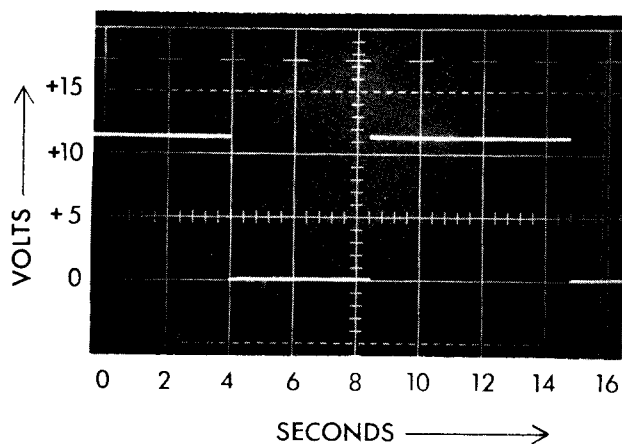

FIGURE 3
- a. Should observe a rectangular waveform with amplitudes of 0 and 12 volts $\pm 10\%$. See Figure 3.